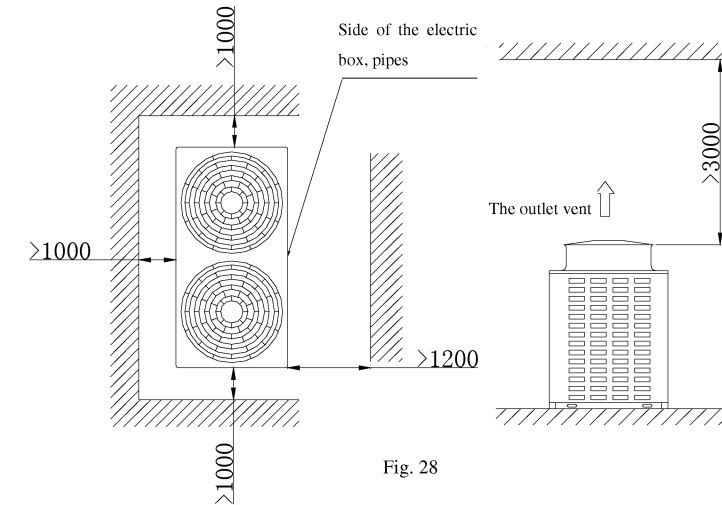

Fig. 28
5. The requirement of installation space dimension for unit body as show in Fig.28.